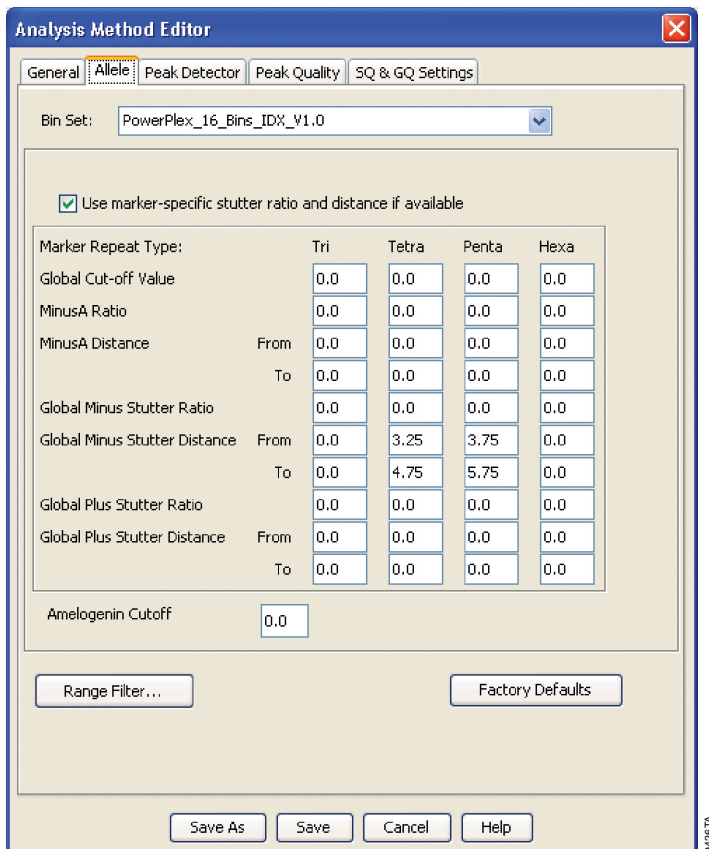

Figure 12. The GeneMapper® ID-X 'Allele' tab.
6. Select the 'Allele' tab (Figure 12).
9. We recommend the values shown in Figure 12 for proper filtering of stutter peaks when using the PowerPlex® 16 HS System. You may need to optimize these settings. In-house validation should be performed.